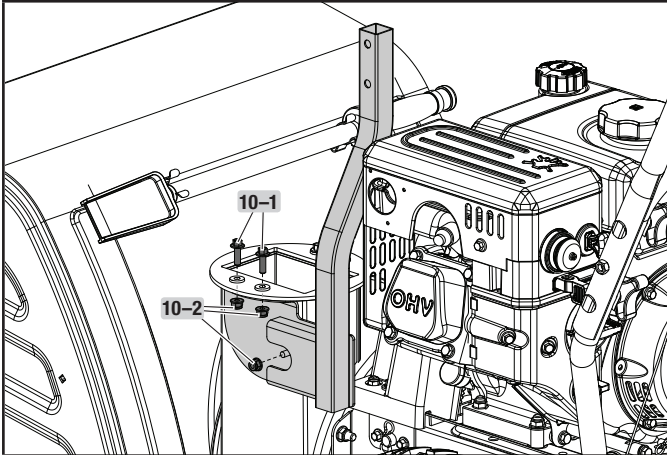

Figure 10
1. Remove the bolts (10-1) and nuts (10-2) from the main body (Fig. 10). Set aside for next step.